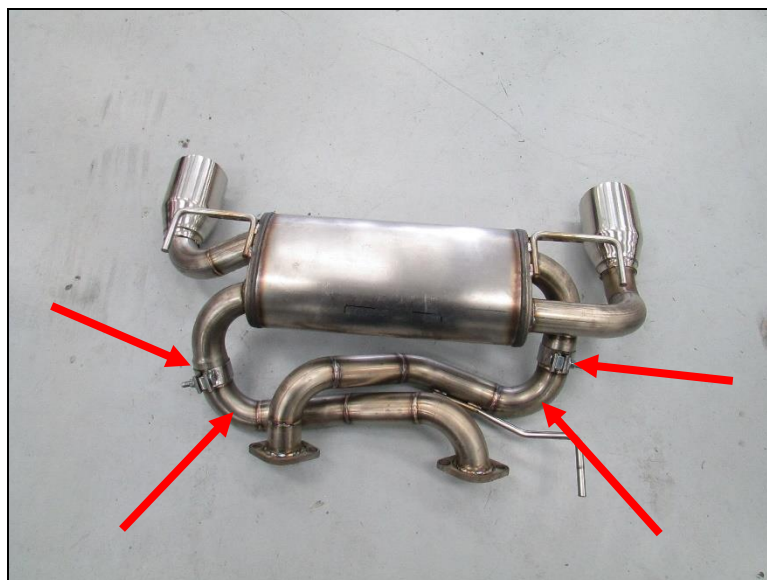

Figure 2
1. Preassemble the axle-back on the ground. Slide on (x2) band clamps and (x2) flange tubes (**Figure 2**).